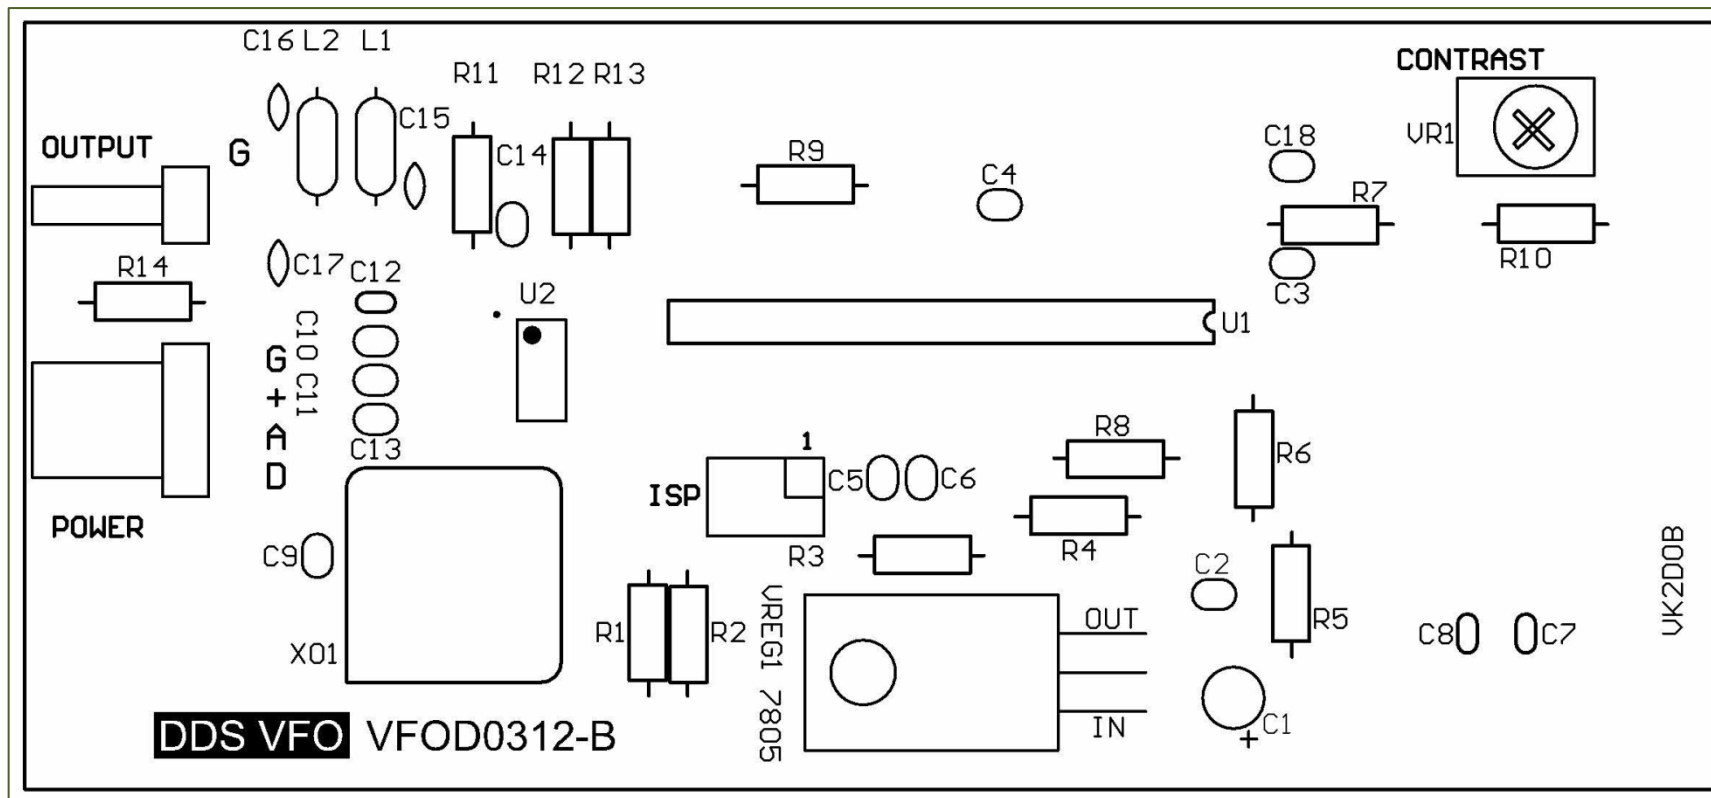

Figure 2 Component overlay
**Refer to the parts list and Figure 2 when installing the components.**